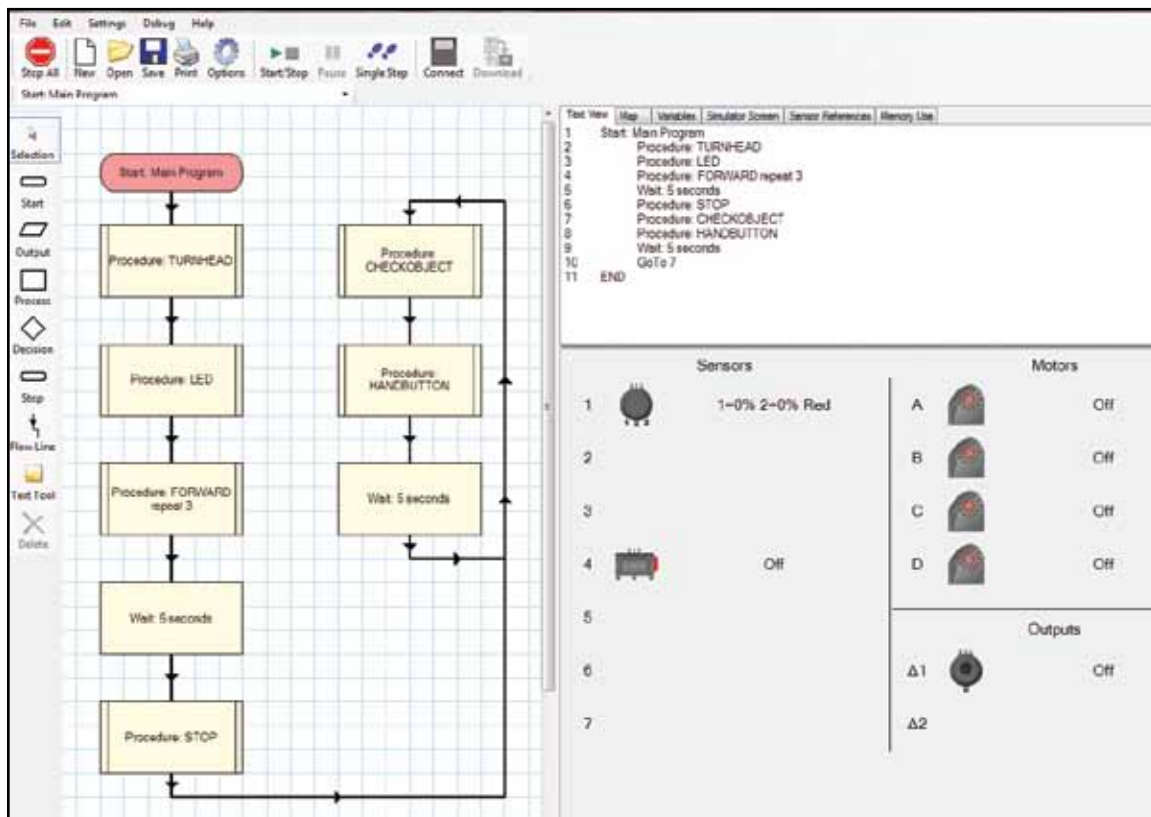
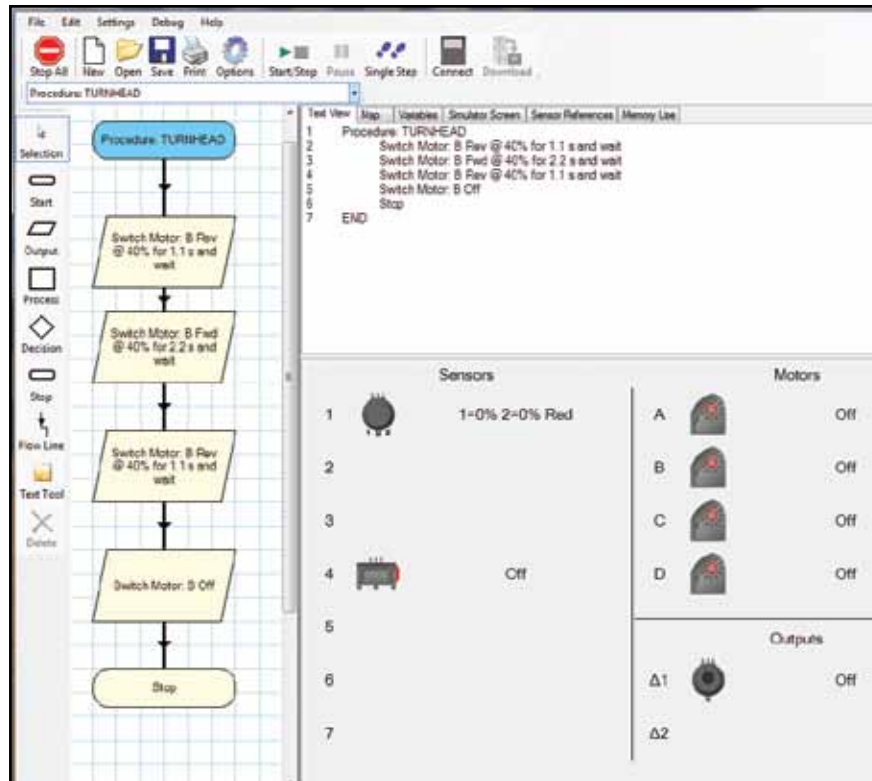
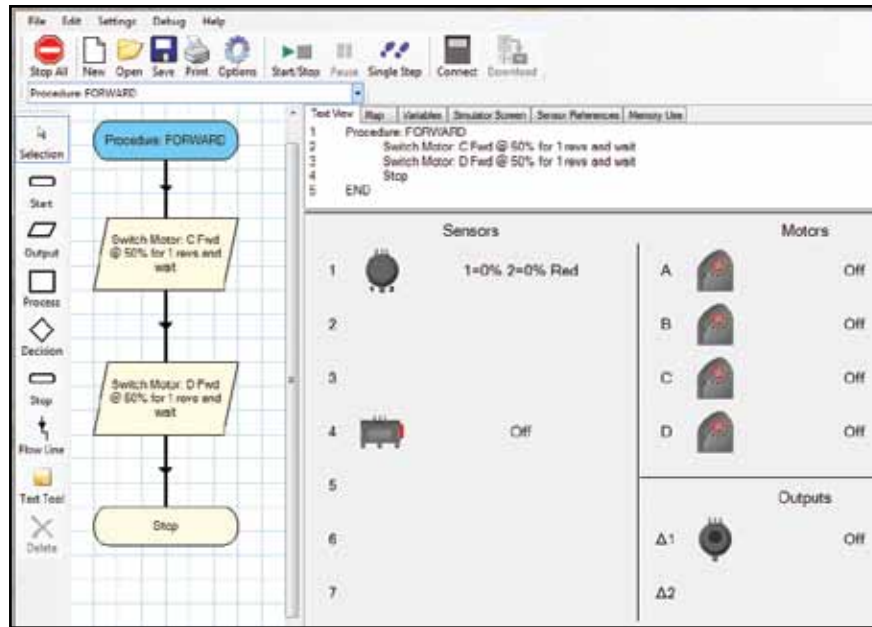

Figure 1: Main Program.
Figure 2: "TURNHEAD" Procedure.
Figure 3: "FORWARD" Procedure.
The main program shows the logic that could be used to program the Bi-Ped Robot to grab a ball (Figure 1). A step-by-step method is described as follows:
1. The first block (*procedure*) in the flowchart as shown below in Figure 1 is "TURNHEAD." The procedure "TURNHEAD" instructs the Robot to move its head once left, once right, and back to straight ahead. The logic flow of the procedure "TURNHEAD" can be seen in Figure 2.
To complete the "TURNHEAD" program as shown in Figure 2 complete the following steps.
- From Figure 1 you can see that the program logic flows from the "TURNHEAD" procedure to the "FORWARD" procedure. Motors C and D are connected to the two legs of the Robot. Figure 3 shows the flowchart for the Robot walking. The motors (C and D) are programmed to move forward at 45% speed. As you follow the logic in "FORWARD" you will notice motor C completes a revolution and then motor D completes a revolution. This process is repeated three times (*When you designate the process symbol for "FORWARD" as a procedure you will name it "Forward" and place a "3" in the 'repeat' space to the right of the title*). The main program as seen in Figure 1 makes the Robot stop after a total of three repeats of the procedure. If you want the Robot to walk for more time, increase the number of repeats within the procedure.